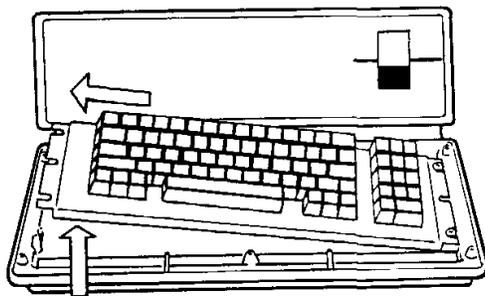

FIGURE 3
5. Lower the Apple III to the operating position and with a hand on each side, lift the cover up and pull it forward to remove it. (See Figure 3).
8. Remove the keyboard by lifting the left end and sliding the right end from under the loosened screws. (See Figure 3).